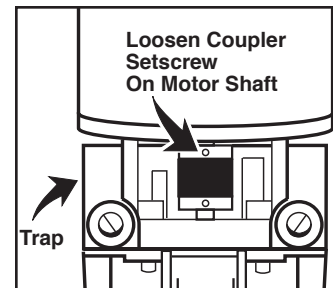
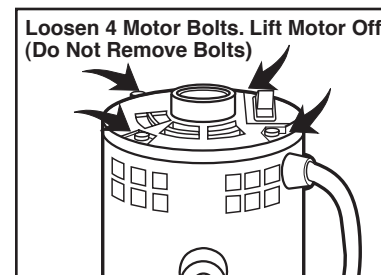

FIG. 2
FIG. 3
2. Turn coupling until setscrews are facing you. With 5/32" or 1/8" Allen wrench (depending on model) loosen setscrew on motor shaft. (FIG. 2) Loosen four (4) motor thru bolts (FIG. 3). Remove motor. **DO NOT REMOVE BOLTS FROM MOTOR AT ANY TIME.**
3. Loosen setscrews on coupler and remove coupling. (FIG. 2)